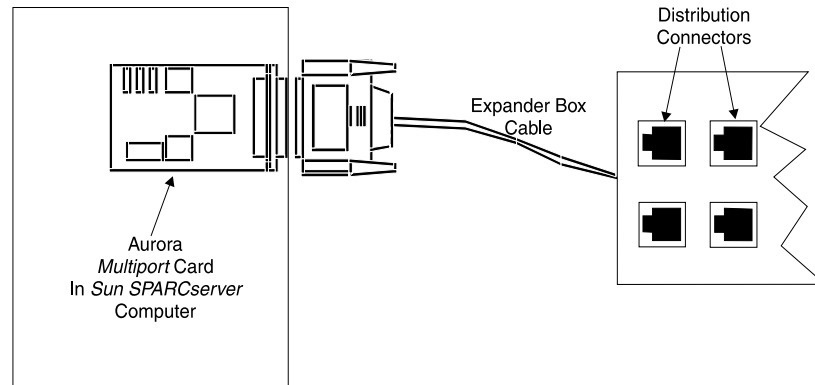

Figure D-57: Expander Box Connection to Aurora *Multiport* Card
1. Attach the expander box cable to the SBus *Multiport* card. Tighten the thumbscrews securely. See Figure D-57.